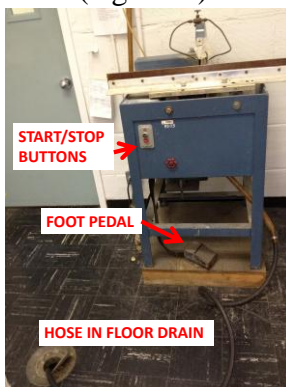

Figure 3. Saw basin drain hose position, power switches and foot pedal positions.
7. Place drain hose inside of floor drain (Figure 3).
13. Compress foot pedal to turn on saw blade (Figure 3).